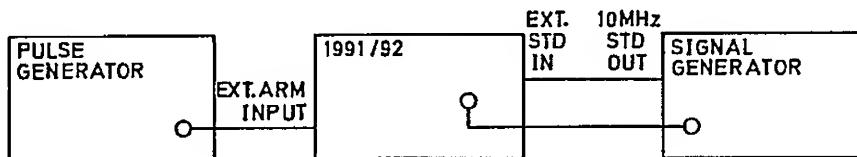

Fig 7.22 Connections for External Arming PVP
- 59 (1) Select 50 Ω on channel A and FREQ A. Press the RESOLUTION key three times until 00000 is displayed.
- (2) Connect the test equipment as shown in Fig 7.22.
- (3) Set the signal generator output to 10 MHz at a level of 200 mV r.m.s.
- (4) Prepare the pulse generator to give a single, 300 μs, positive-going pulse with a low level of +0.4 V and a high level of +2.4 V (TTL limit levels).
- (5) Press **1** **6** **SHIFT** **STORE** **SF** **SHIFT** **SF**
- (6) Verify that the instrument is not counting.
- (7) Trigger the pulse generator to obtain a single pulse output.
- (8) Verify that the display indicates 10.0000 6 Hz ± 1 count and that the instrument is not continuously gating.
- (9) Press **1** **0** **SHIFT** **STORE** **SF** **SHIFT** **SF**
(10) Disconnect the test equipment.